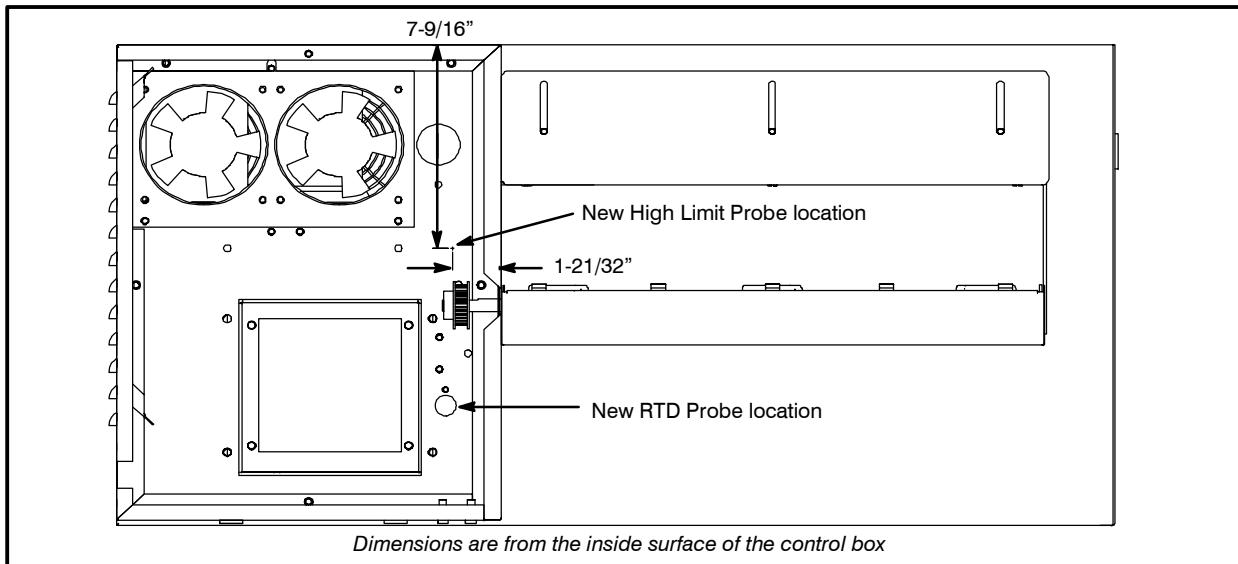

FIGURE 1
NOTE: Refer to FIGURE 1 for correct probe locations.
- B.) Install the high limit probe well in the location indicated in FIGURE 1. If there is no hole for the probe well, drill a .38 dia. hole through the body side and inner liner at the correct location.